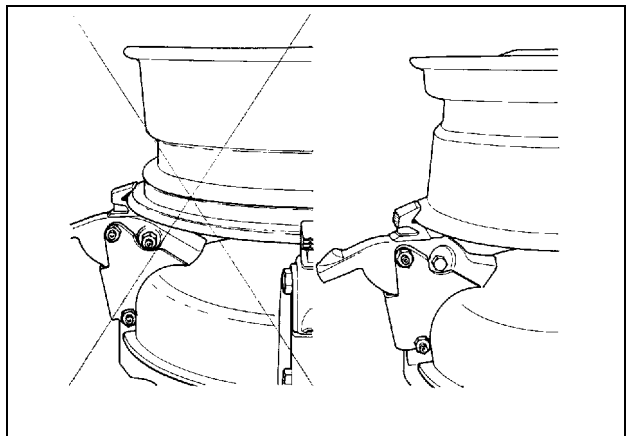

Fig.17
D. Lubricate both beads seat areas liberally. Place the wheel **WITH DROP CENTER UP** (Fig.17) on the turntable, and clamp in position. Hold the tire and wheel down while clamping.